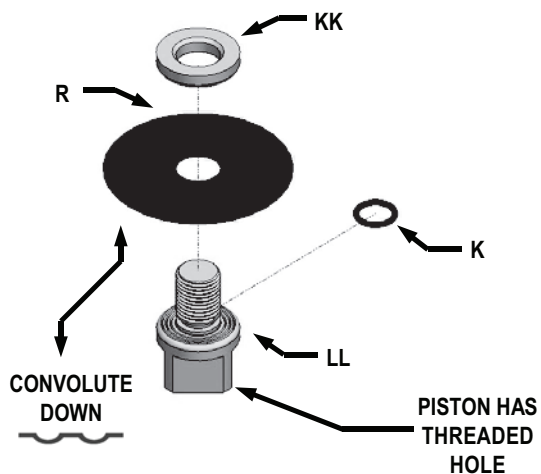

Figure 35
C. Slide a –012 O-Ring (K) onto the Small Piston (LL). Place a Convoluted Diaphragm (R) onto the Small Piston (LL) using the orientation shown in Figure 35. Slide a Small Washer (KK), onto the Small Piston (LL).